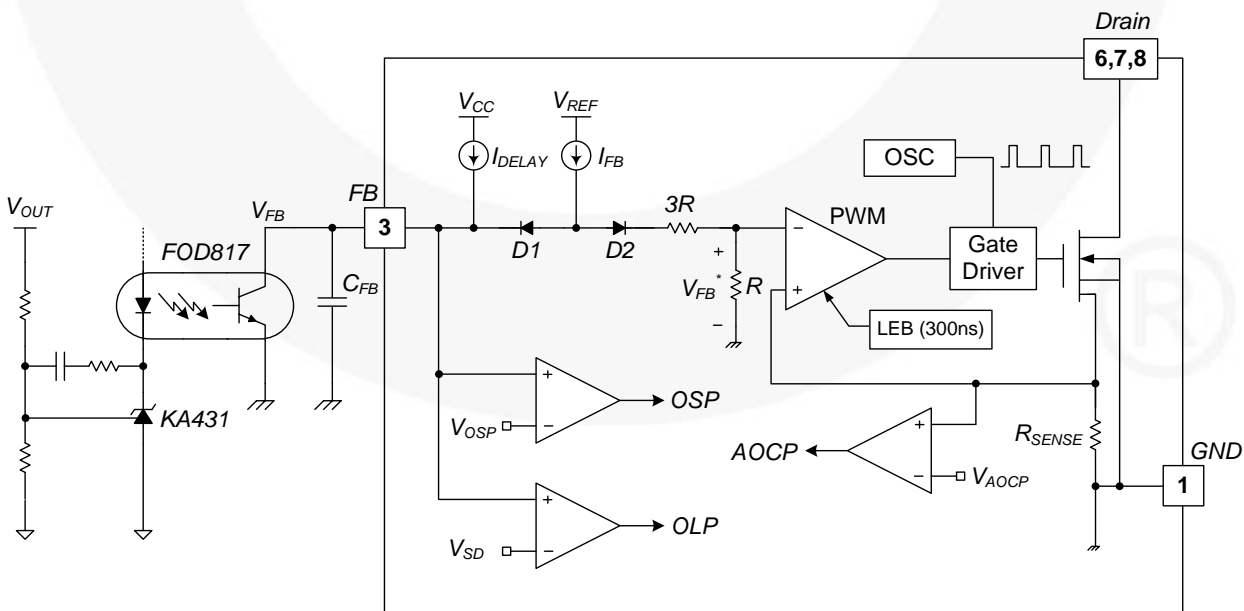

Figure 19. Pulse Width Modulation Circuit
3. Feedback Control: This device employs current-mode control, as shown in Figure 19. An opto-coupler (such as the FOD817) and shunt regulator (such as the KA431) are typically used to implement the feedback network. Comparing the feedback voltage with the voltage across the R_{SENSE} resistor makes it possible to control the switching duty cycle. When the reference pin voltage of the shunt regulator exceeds the internal reference voltage of 2.5 V, the opto-coupler LED current increases, pulling down the feedback voltage and reducing drain current. This typically occurs when the input voltage is increased or the output load is decreased.
3.1 Pulse-by-Pulse Current Limit: Because current-mode control is employed, the peak current through the SenseFET is limited by the inverting input of the PWM comparator (V_{FB}^*), as shown in Figure 19. Assuming that the 90 μ A current source flows only through the internal resistor ($3R + R = 27 \text{ k}\Omega$), the cathode voltage of diode D2 is about 2.5 V. Since D1 is blocked when the feedback voltage (V_{FB}) exceeds 2.5 V, the maximum voltage of the cathode of D2 is clamped at this voltage. Therefore, the peak value of the current through the SenseFET is limited.